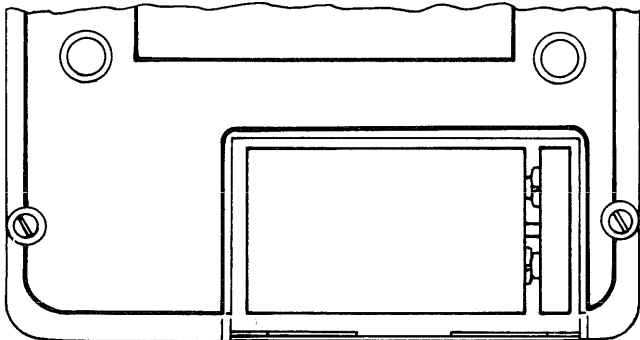

Fig. 2-4 How to place the batteries in the battery compartment.
- Replace the new batteries as shown in the diagram below (fig. 2-4). The flat cable must be below the batteries and must not be twisted.